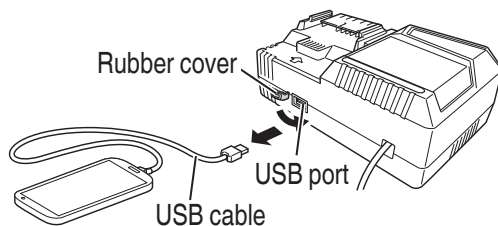

Fig. 10
- (3) When charging is completed
- Unplug the power cord from the electrical outlet. (**Fig. 10**)